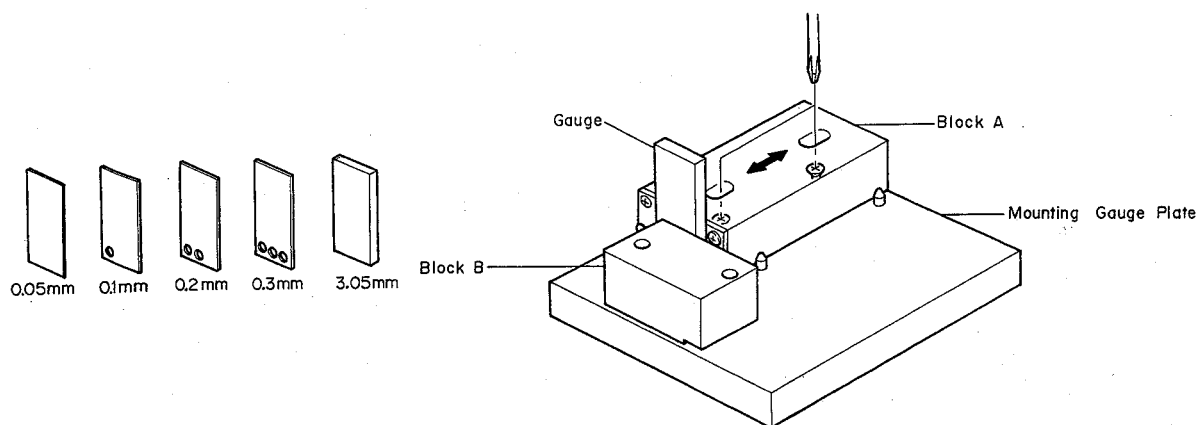
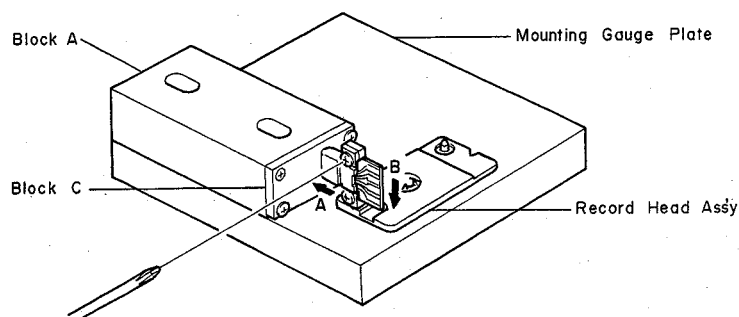

Fig. 5.14
Fig. 5.15
Refer to Figs 5.14 and 5.15.
- (1) Check the accuracy of the record head stroke.
- (2) Remove Head Mount Base Ass'y referring to item 3.22.
- (3) Remove the record head assembly.
- (4) Adjustment of Record Head Mounting Gauge M-9048 (DA09048A)
- (c) As shown in the Fig. 5.14, hold the Gauges (3.05 mm and 0.1 mm thickness) between the Block A and Block B, fix the Block A with screws, pushing the Block A to the 2 guide pins.
- (5) Remove the Block B from the Mounting Gauge Plate.
- (6) As shown in the Fig. 5.15, mount the R-8L record head assembly onto the Mounting Gauge Plate, then check the location of the R-8L record head surface. (If record head contacts to the Block C, loosen 2 pcs. of screws that assembled record head and R-8L record head assembly, then place the R-8L record head assembly onto the Plate.)
- (7) Remove the R-8L record head assembly from the Mounting Gauge Plate.
- (8) Readjustment of Record Head Mounting Gauge M-9048 (DA09048A)
- (c) As shown in the Fig. 5.14, hold the Gauges (3.05 mm and either one of 0.05, 0.15, 0.2, 0.25, 0.3 or 0.35 mm thickness) between the Block A and Block B, fix the Block A with screw, pushing the Block A to the 2 guide pins.
- (9) Remove the Block B from the Mounting Gauge Plate.
- (10) Mount the R-8L record head assembly onto the Mounting Gauge Plate.
- (11) As shown in the Fig. 5.15, loosen the R-8L record head with 2 pcs. of screws onto the record head plate. As the location of the Block A is secured by the item (8) - (c), push the record head to the directions A and B, then tighten 2 pcs. of screws.
- (12) Check to insure freedom from gap between the Block C and record head surface, then tighten the 2 pcs. of screws on the record head plate with lock tight paint.
- (13) Assemble the record head assembly to the head mount base assembly.
- (14) Assemble the head mount base assembly to the mechanism assembly.
- (15) Check the record head stroke.